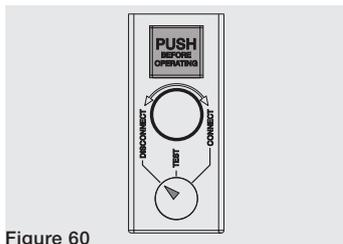

Figure 60
- circuit breaker in DISCONNECT position (see Figure 60).